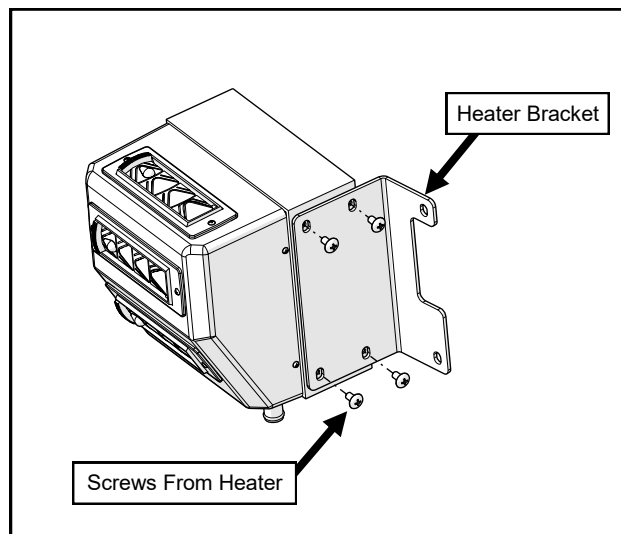

Fig. 16.1 (Pre-Assemble Heater to Bracket)
16.1 Pre-assemble the heater bracket onto the heater using the screws already installed on the side of the heater. See Figure 16.1. Tighten hardware.